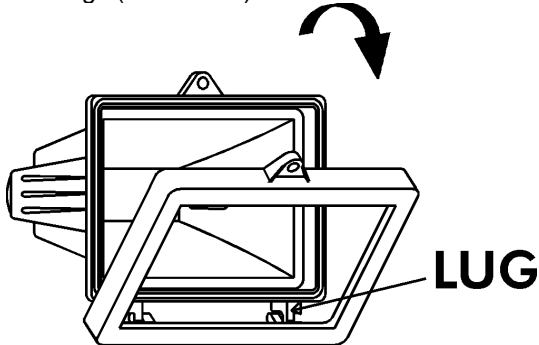

FIGURE 4
- (4) Raise front surround. Lift off retaining lugs.(FIGURE 4)